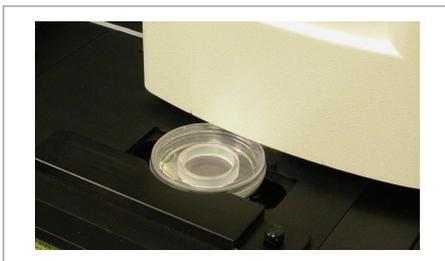

Figure 5. Arcturus^{x7™} With Dish Assembly on Stage.
2. Load the Arcturus^{x7™} Microdissection Petri Dish–Growth Chamber assembly onto the Arcturus^{x7™} Petri Dish Stage Insert. Keep the lid on the Petri dish to maintain sterility (Figure 5).